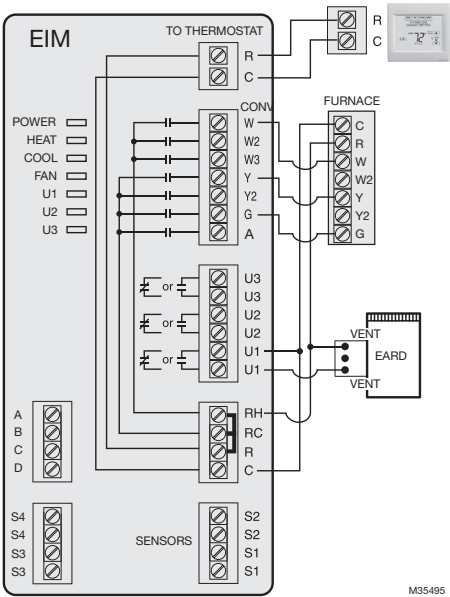

Fig. 4. Wiring an EARD to a VisionPRO® with RedLINK™.
- c. For EARD wiring, use only 2 VENT terminals. See Fig. 4